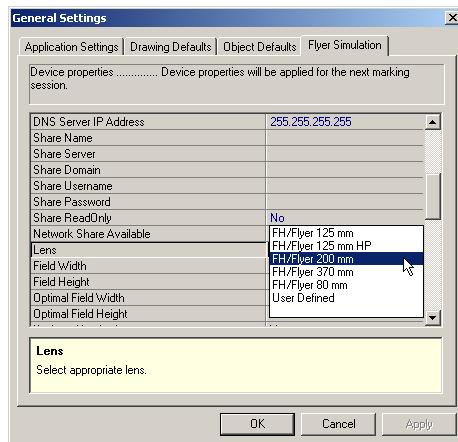

Figure 3-2 Lens Selection dialog box
- 4 In the drop-down list (Figure 3-2), select the lens matching the one currently installed on your marking head.